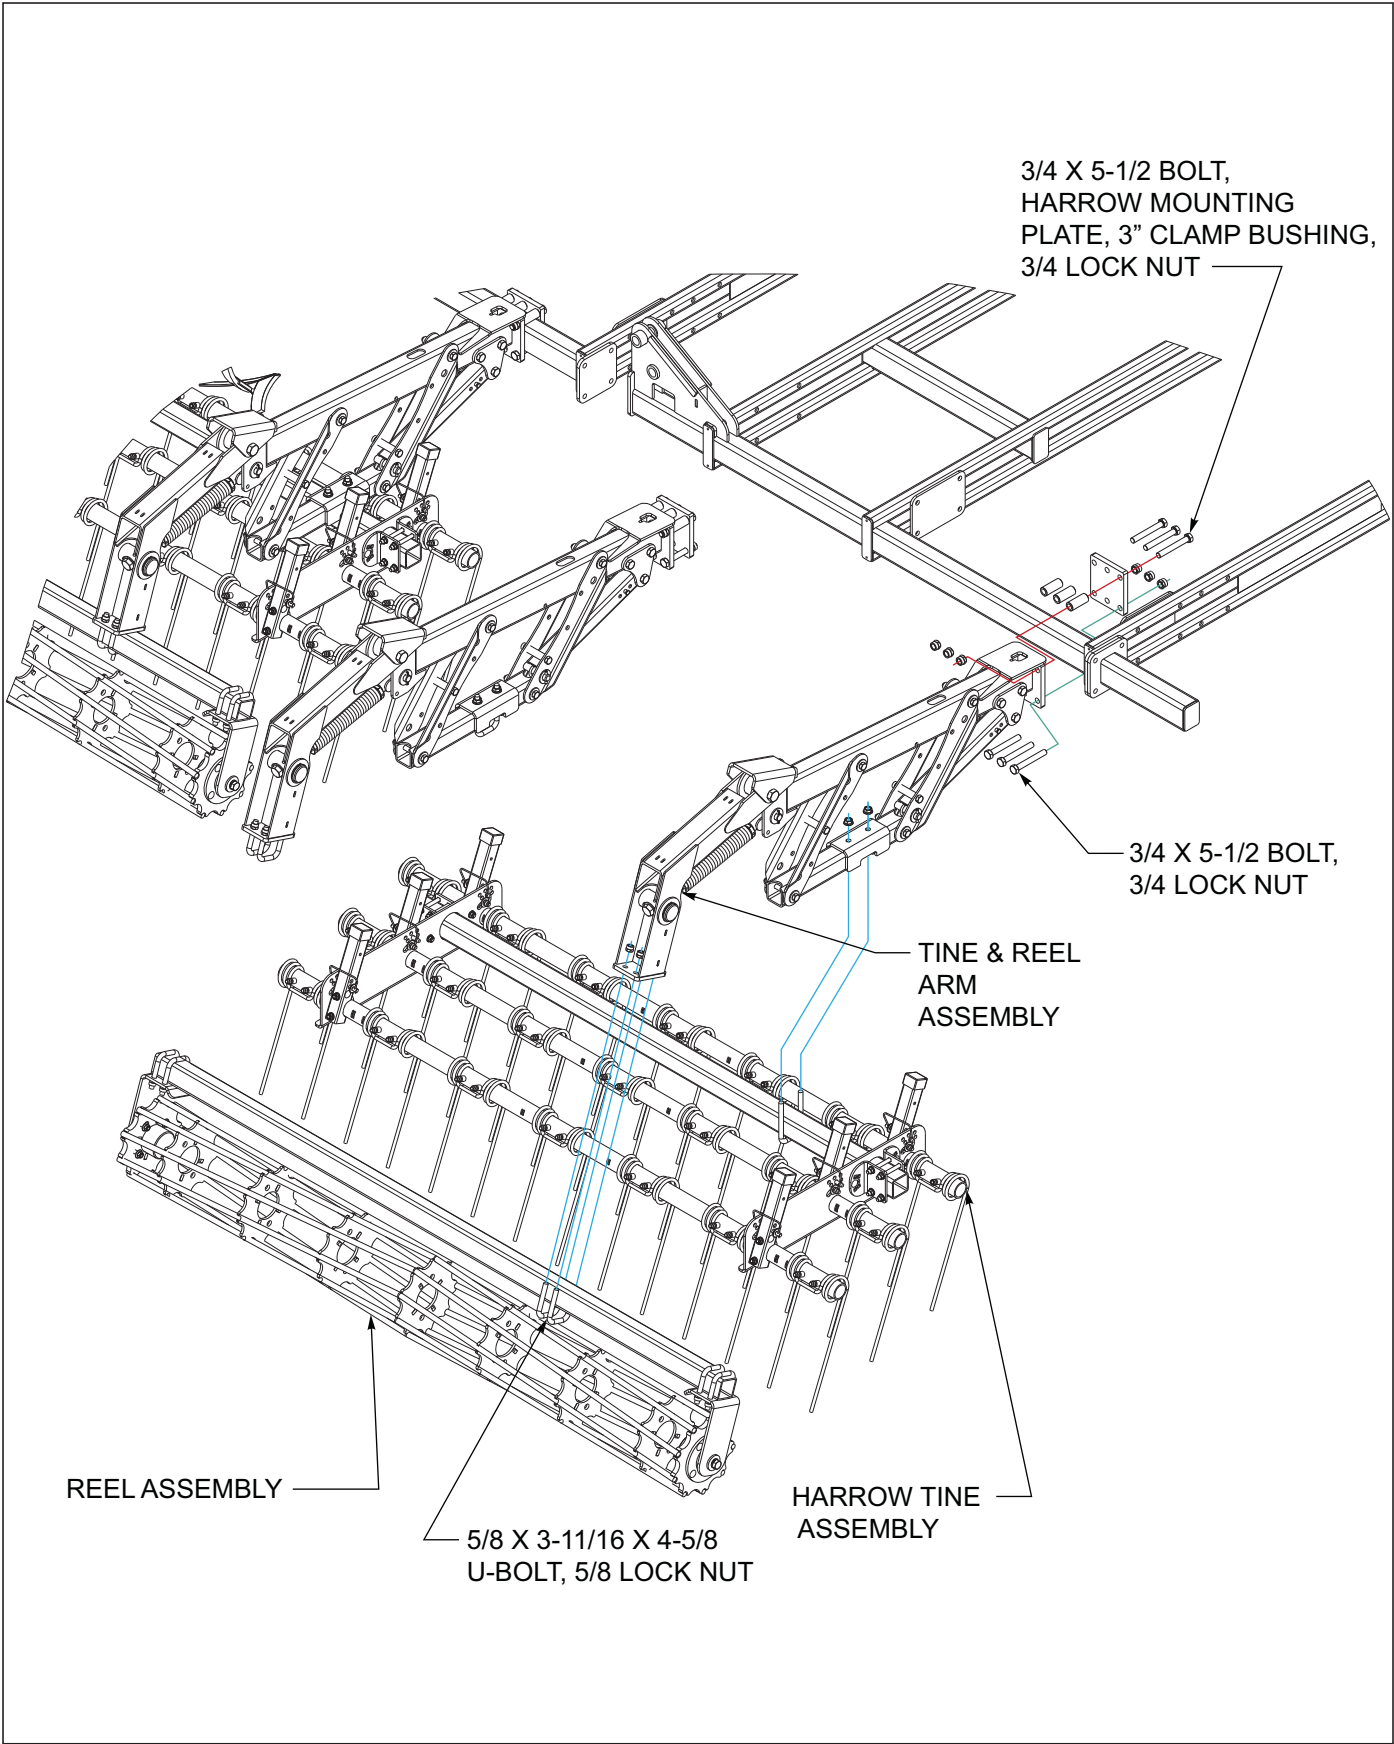

Figure 3-20: 3 Row Coil Tine and Reel Harrow Installation
1. Attach the tine/reel arm assemblies to the rear tube of the center and wing frames using harrow mounting plates, 3/4 x 5-1/2 bolts, clamp bushings and 3/4 lock nuts **See Figures 3-20**. Clamp bushings are installed on the top mounting bolts.